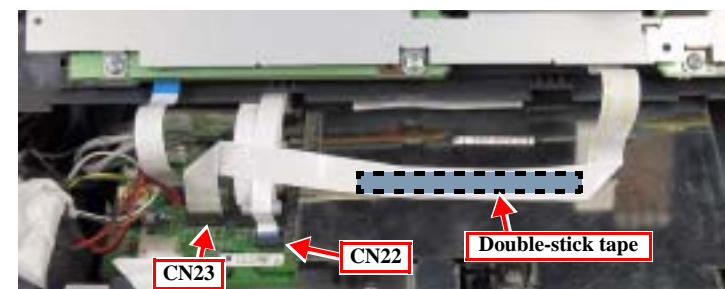

Figure 4-3. Removing the Panel Assy 2
5. Lift the Panel Assy, and disconnect the FFCs x2 (CN23 and CN22) from the Main Board. (Fig. 4-3)